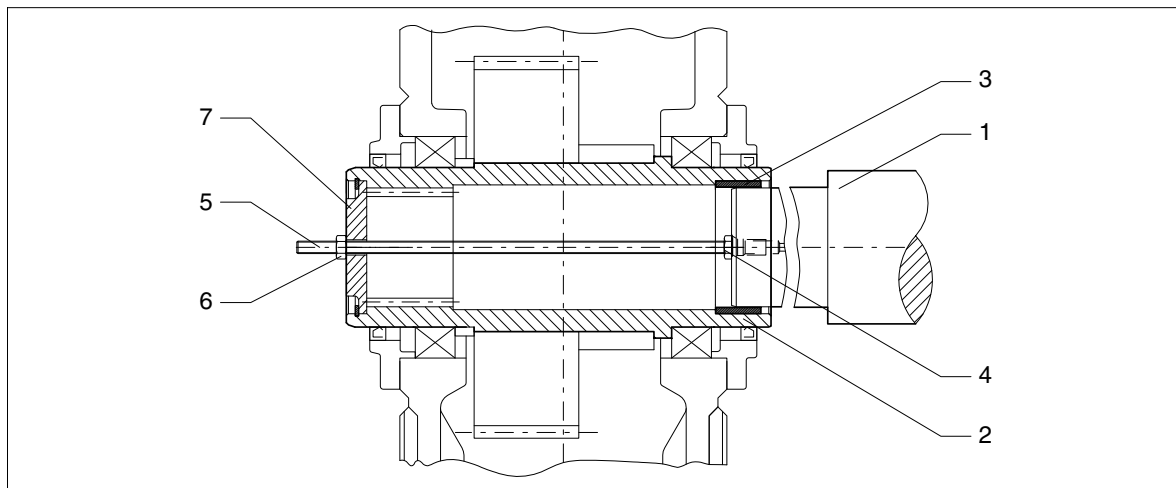

Fig. 49: Hollow shaft with internal spline, fitting with DU bush
The loose DU bush is pushed onto the machine shaft, fixed rigidly in position with a locating tie and then pulled into the hollow shaft along with the machine shaft of the gear unit (see figure 49).
- using a central threaded spindle or (see figure 49)